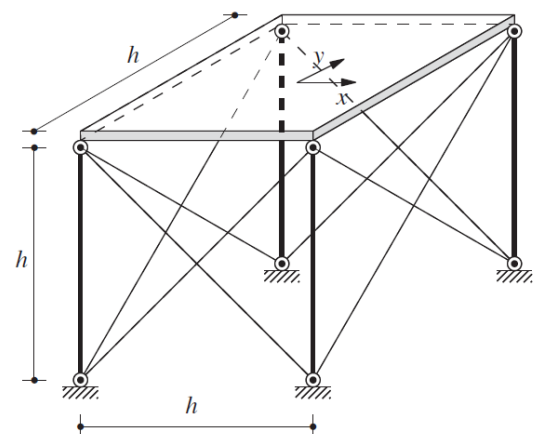

Figure 3
2) Write the equation governing the free vibration of the system shown in Fig. 3. Assuming the beam to be massless, the system has a single DOF defined as the vertical deflection under the weight  $w$ . The flexural rigidity of the beam is  $EI$  and the length is  $2L$ .